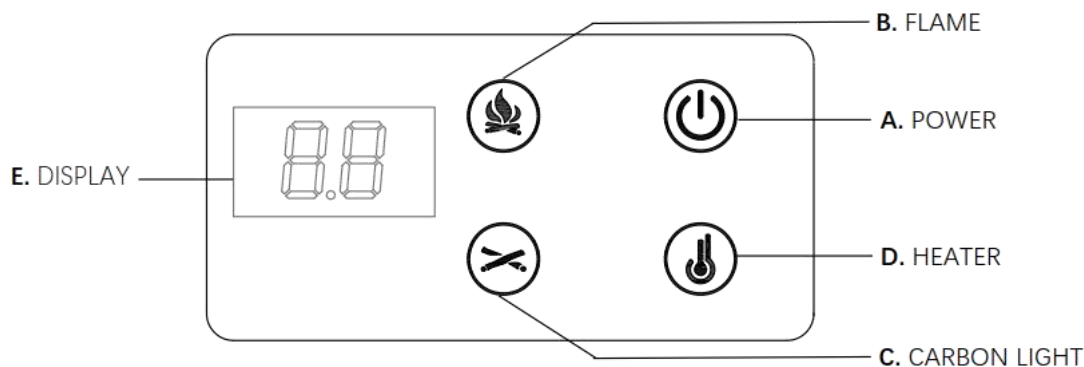

Figure 3
■ POWER (Figure 3.A):
■ FLAME (Figure 3.B):
- Press the flame button to set the flames color/flame brightness. The flame levels are shown in the display (E).When turn is "OF" pressed, the flame is turn off.
- Press FLAME button 5S to adjust the flame brightness, not including Polar flame. After this is set, the display (E) will flash 5 times and exit from setting status.
■ CARBON LIGHT (Figure 3.C):
- Press the carbon light button to set the carbon light color. These color levels are shown in the display (E).
- Press CARBON LIGHT button 5 seconds to FLAME SPEED mode. After this is set, the display (E) will flash 5 times and exit from setting status.
■ HEATER (Figure 3.D)
- Press the heating button to set the heating levels. The heating levels are shown in the display (E).When turn is "OF" pressed, the heating is turn off.
■ DISPLAY (Figure 3.E)